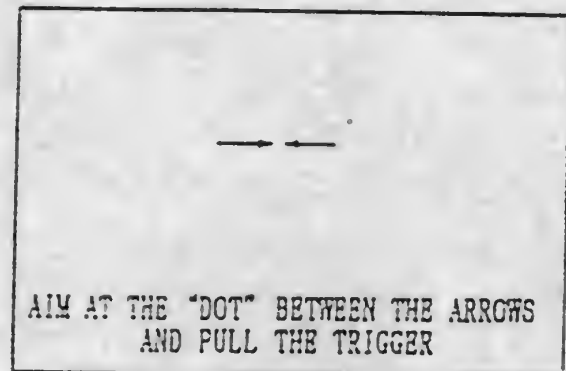
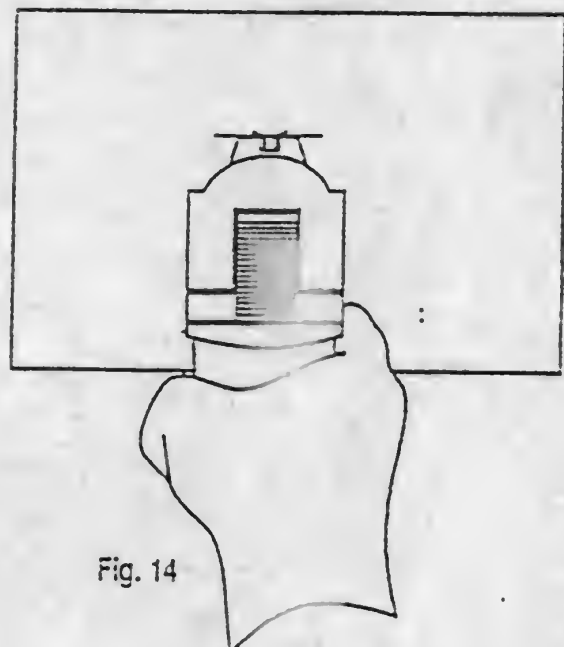
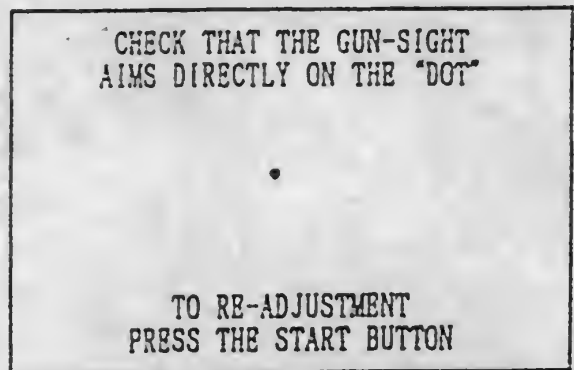

Fig. 13 Gun Initialization Adjustment Screen
Fig. 14
Fig. 17 Check screen
- (2) Press the start button. The adjustment screen shown in Fig. 13 will be displayed.
- (3) When the adjustment screen shown in Fig. 13 is displayed, stand up in front of the game machine and aim in between the arrows (→ ←) in the middle of screen. (See fig. 14)
- (5) When the gun sight aims directly at the cursor, pull the trigger. The check screen shown in Fig. 17 is displayed.
- (6) Check the result of adjustment. If the cursor is out of the gun sight, press the start button once again. The current screen will return to the adjustment screen (Fig. 13) for readjustment.
- (7) If the cursor comes in the gun sight to aim the gun at a target, the adjustment will be completed. Press the service switch. The gun initialization screen for player-2 is displayed. Initialize the player-2 gun in the same manner.
Note: If the service switch is pressed or the test switch is turned "OFF" without making any adjustment on the adjustment screen (Fig. 13), the cursor will be out of the gun sight. Be sure to leave the test mode on the check screen (Fig. 17) after adjusting and checking the gun. To return to the game screen, turn the test switch "OFF" on the check screen (Fig. 17). After adjustment, play a game to check for normal adjustment.